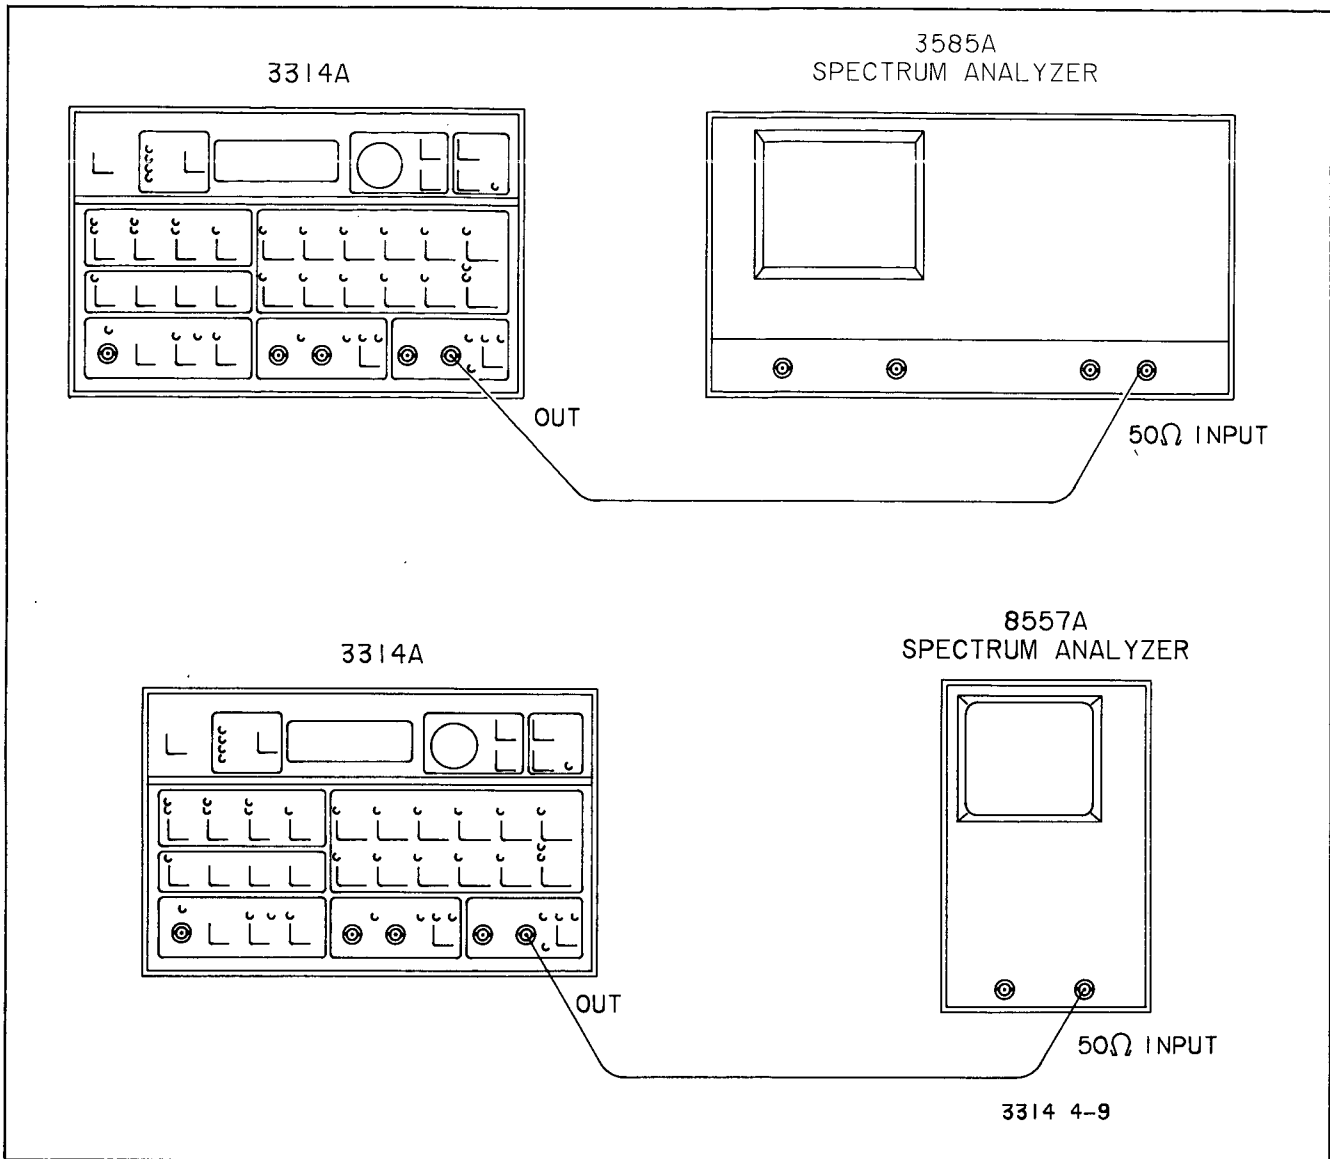

Figure 4-9. Sine Wave Harmonics
- C. Connect the 3314A to the 3585A as shown in Figure 4-9.
K. To measure the harmonics of the frequencies listed in Table 4-7, connect the 3314A to the 8557A Spectrum Analyzer as shown in Figure 4-9.